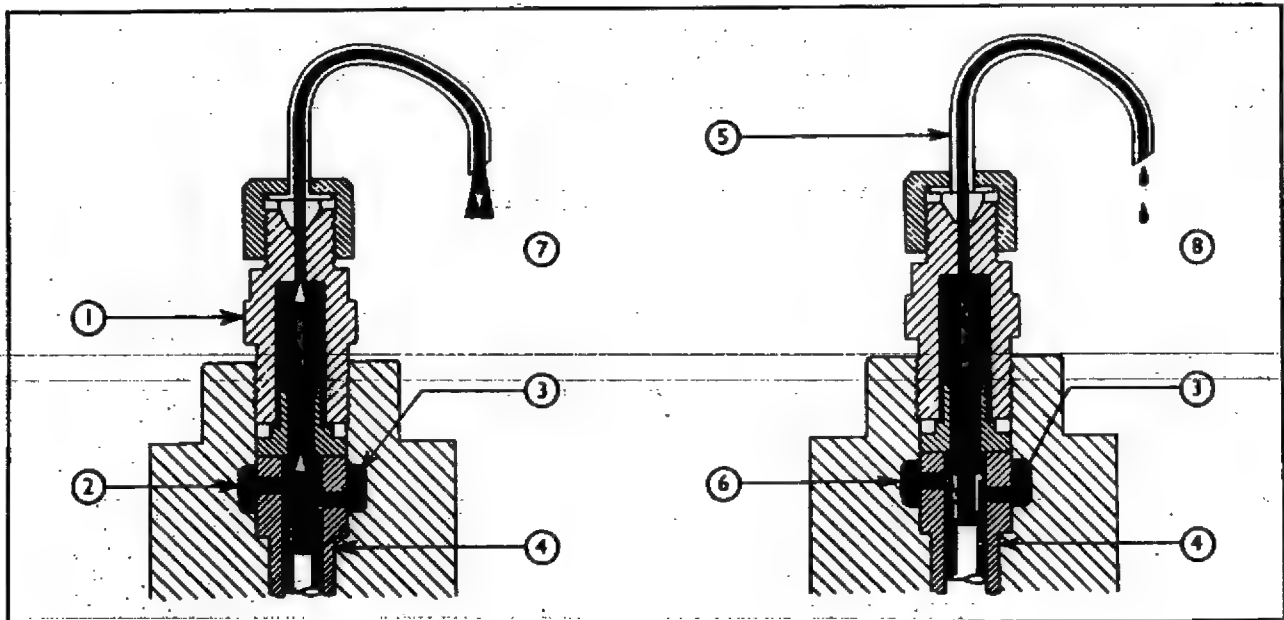

Fig. 32
In Fig. 32 the L.H. view shows the pump plunger at the bottom of its stroke, fuel can flow through both ports and out through the spill pipe attached to the delivery valve holder.
1. Remove the delivery valve, spring and volume reducer from next element in the firing order sequence, i.e. No. 2 (4 cyl.) and No. 5 (6 cyl.). Tighten the delivery valve holder to 51.5 to 57 Nm (5.26 to 5.81 kgfm or 38 to 42 lbf ft) torque and fit the spill pipe Tool No. CT.9023 (see Fig. 32).